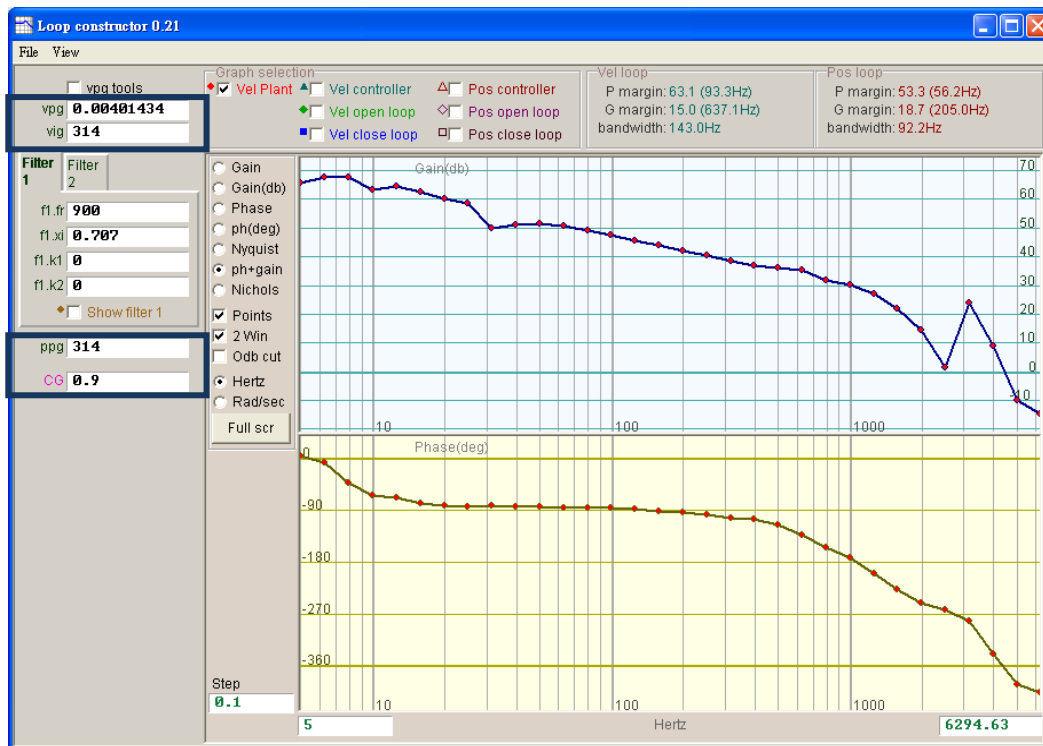

Figure 6.7.4.1 Loop constructor - gains
“Loop constructor” provides gain values of velocity loop (vpg, vig) and position loop (ppg), and common gains (CG). Refer to Section 6.6 for more information. These parameters can be used to tune gains to simulate the stability of control system after gain tuning, as shown in figure 6.7.4.1.